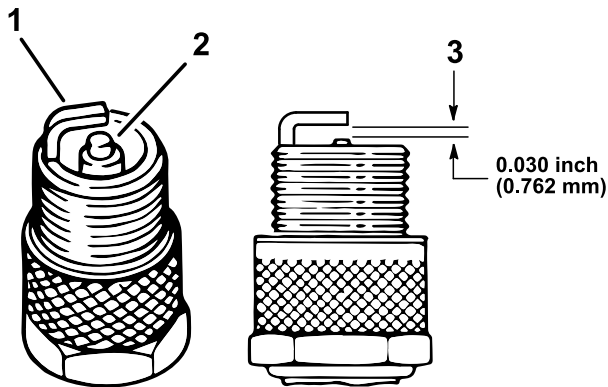

Figure 38
4. Check the condition of the side electrode, center electrode, and center electrode insulator to ensure that there is no damage (Figure 38).
5. Set the air gap between the center and side of the electrodes at 0.762 mm (0.030 inch) as shown in Figure 38.